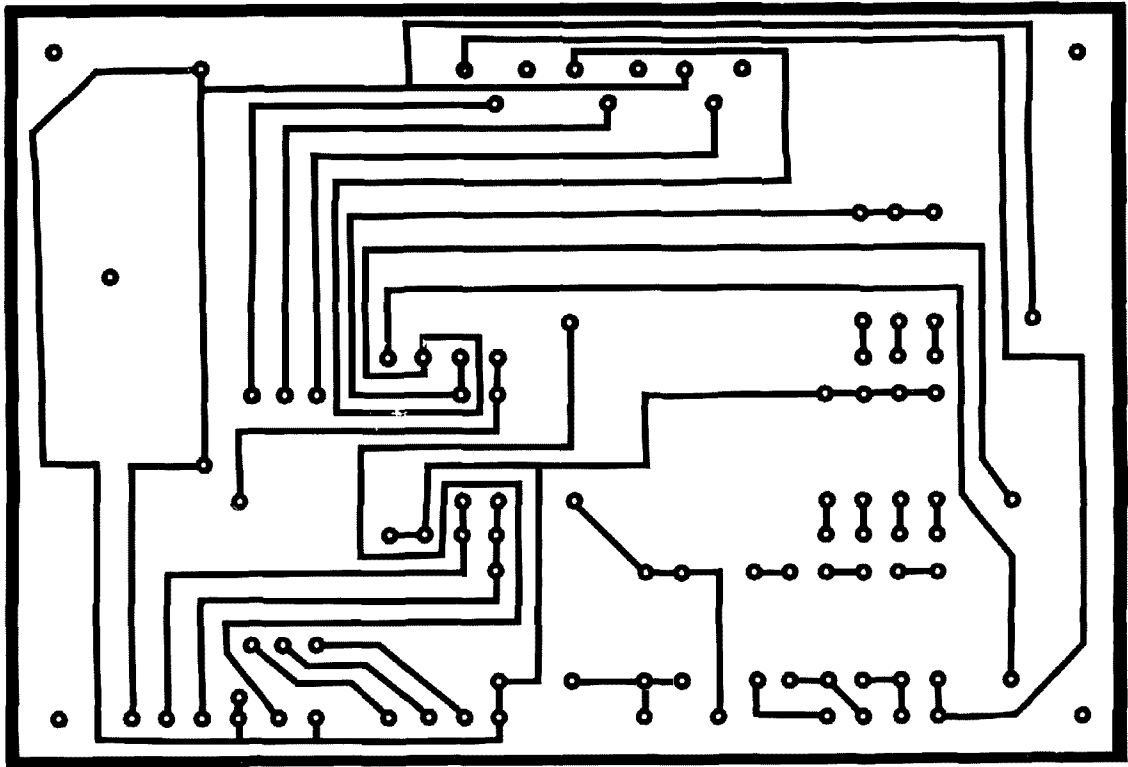
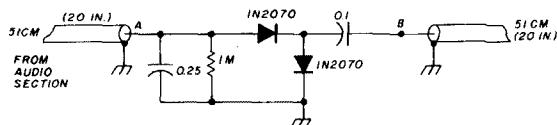

fig. 5. Foil side of the FSVOM PC board.
fig. 2. The ALC circuit built from instructions in the article.
A parts list for the FSVOM is shown in **table 1**. The PC board should be etched and drilled as in **fig. 5** and
8. Using a solder-lug terminal (4 or 5 lugs), build the ALC circuit shown in fig. 2. Be sure to use a terminal strip with a grounded mounting lug at one outer end.
9. Solder the outer end of the shielded cable coming from the audio section to point A in fig. 2. Attach another piece of shielded cable, about 51-cm (20-inches) long, to point B in fig. 2.
16. Connect point E to the shielded cable coming from point B in fig. 2. The final-amplifier wiring will now appear as in fig. 5.